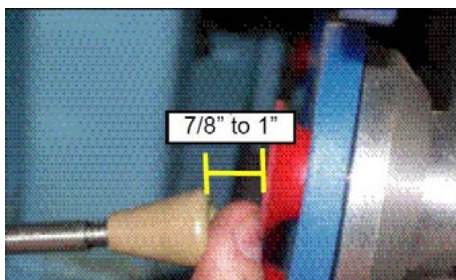
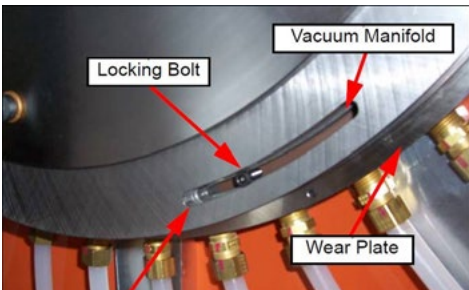

Figure 7
Figure 8
2. Adjust the height of the sprocket on the pin chain stand to have a 7/8 inch [22 mm] to 1" (25.4mm) wide gap between the pin chain tip and the suction cup at the transfer point. (Figure 7) Adjust the vacuum timing plug in the transfer manifold so the vacuum turns off 1 to 2 inches [25 to 50 mm] above the transfer point. (Figure 8)